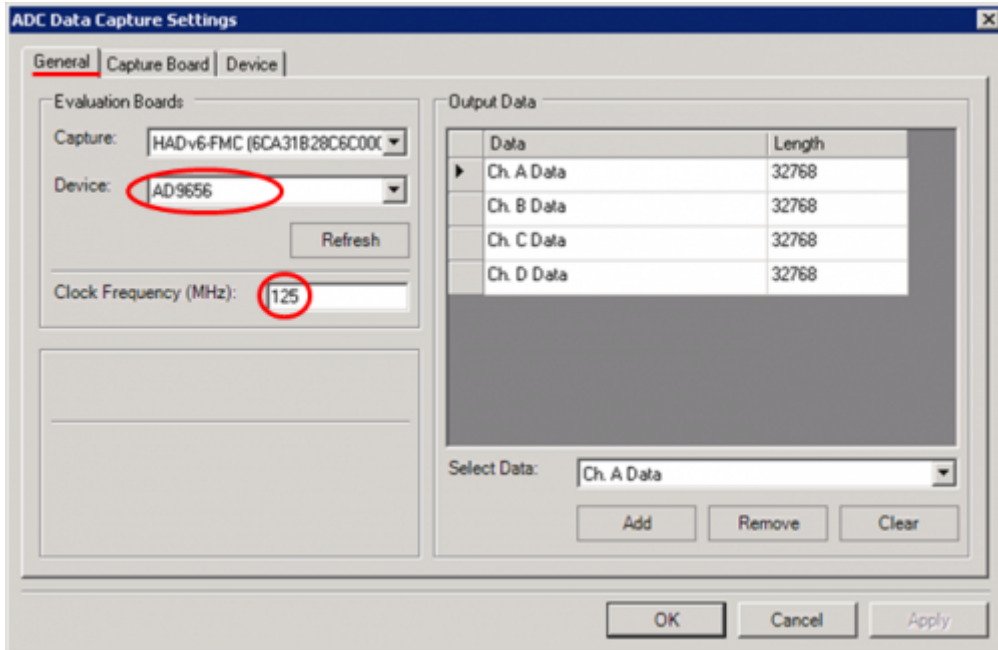

Figure 8. VisualAnalog ADC Data Capture Settings Window, General Tab
5. In the ADC Data Capture Settings Window, General Tab, select AD9656 to be the device, enter the sample clock frequency (125 is the default value), as shown in Figure 8. The sample frequency entered here is used for scaling of frequency values in test results and graphs. In the Output Data field, the channels to be tested are selected, as well as the FFT capture depth (“Length”). Note that the total of the capture depths for all selected channels cannot exceed 256k.